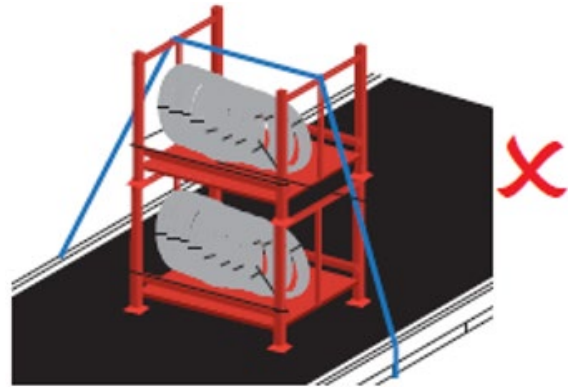

Figure 1: Do NOT double stack crates containing product
- ✓ Olex coil crates must be restrained by at least one webbing as shown in Figure 1 & 2.